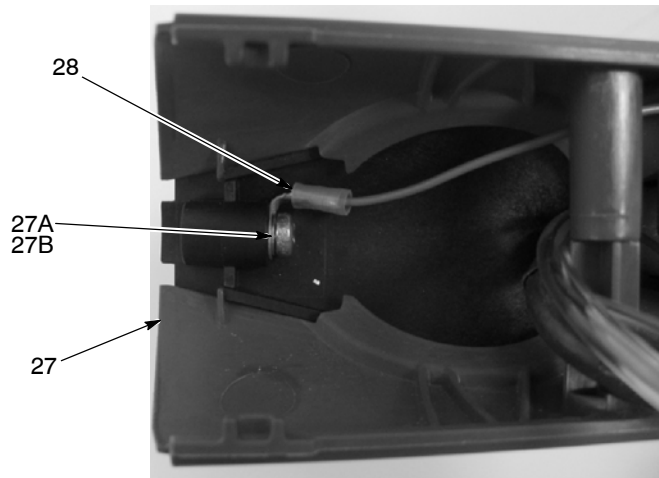

Figure 5-8 Removing the Ground Terminal from the Ground Pad (Top View)
12. See Figure 5-8. Remove the M3 x 6 screw and M3 lockwasher (27A, 27B) and disconnect the ring-tong ground terminal (part of cable, 28) from the ground pad (27).
8. See Figure 5-8. Connect the cable ground terminal to the inside boss of the ground pad (27) with the lockwasher and screw (27A, 27B).